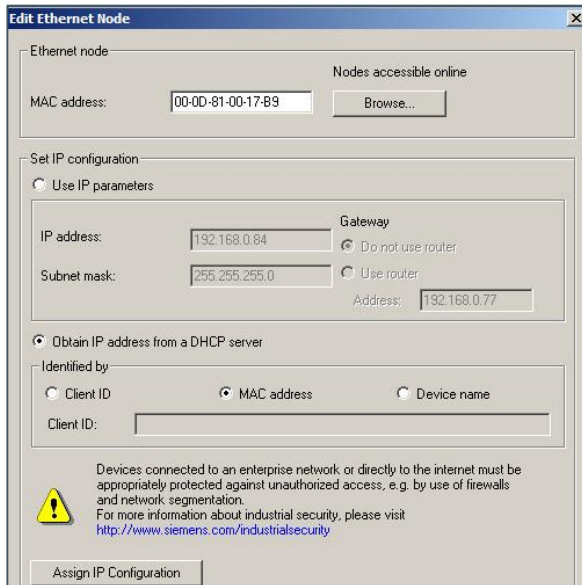

Figure 72: Assign IP address of gateway via DHCP server
- 1) Choose **Obtain IP address from a DHCP server > MAC address** and click **Assign IP Configuration** (see: Figure 72: Assign IP address of gateway via DHCP server).